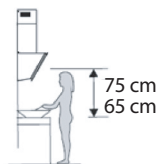

Figure 2
3. After deciding on the height of the extractor hood, measure the position of the holes required to suspend the hood as well as the inner duct mount. Drill 4 holes of 8: 2 for the inner duct mount and 2 others to suspend the hood, while making sure it is properly levelled. The position of the inner duct mount corresponds to the location of the duct. See figure 2